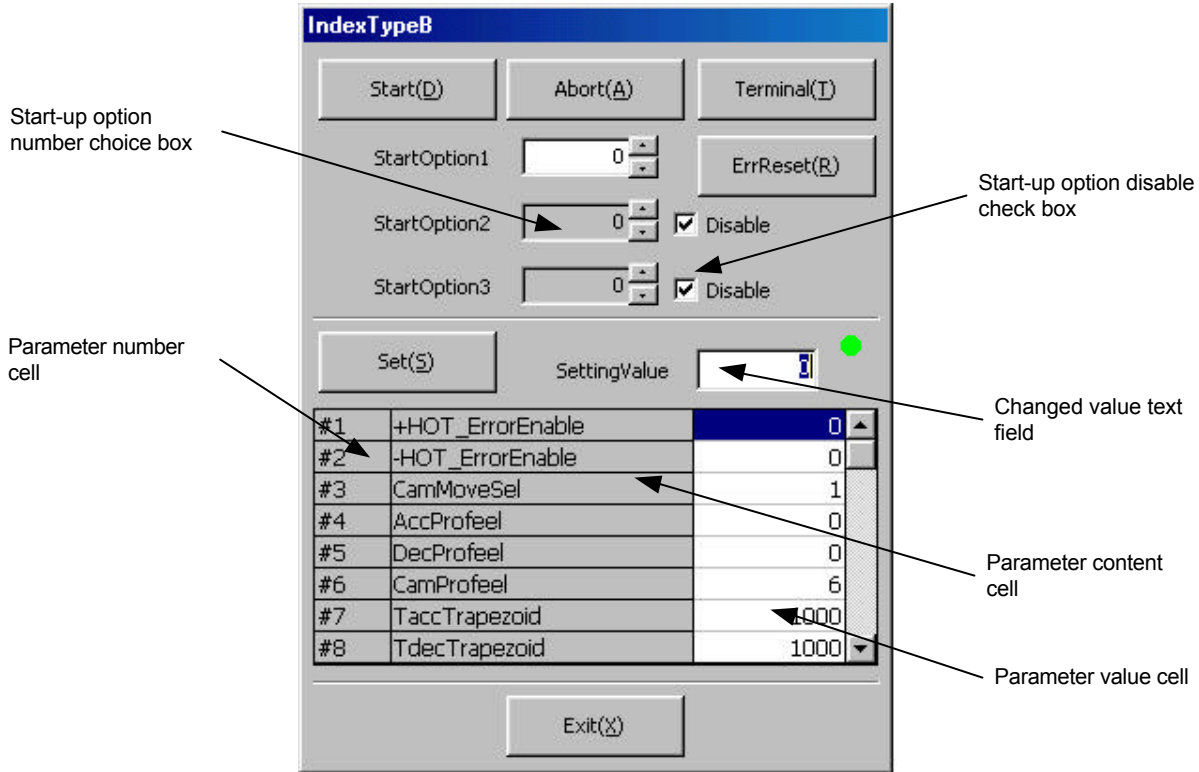

Figure 7.24 “Index TypeB” dialog box
Click “*IndexTypeB (B)*” in the “DriveMenu” dialog box to display the “Index TypeB” dialog box (see Figure 7.24). If the connection with the driver is established, the current values of the related parameters are read and can be edited.